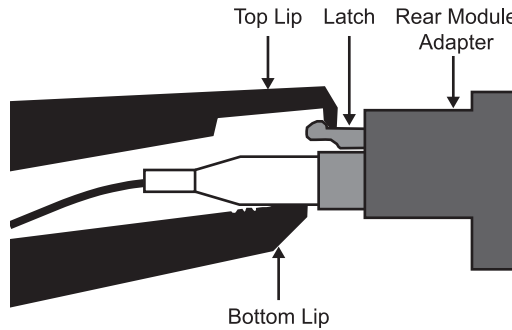

Figure 2.8 Positioning the Optic Cable Tool — Single-Latch Connector
1. Position the bottom lip of the Optic Cable Tool on the connector boot, ensuring that the top lip makes contact just behind the notch at the end of the latch. (**Figure 2.8**)